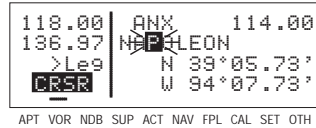

Figure 3-78
6. Select the third character, “P” (figure 3-78). Up pops Napoleon and its identifier, ANX!